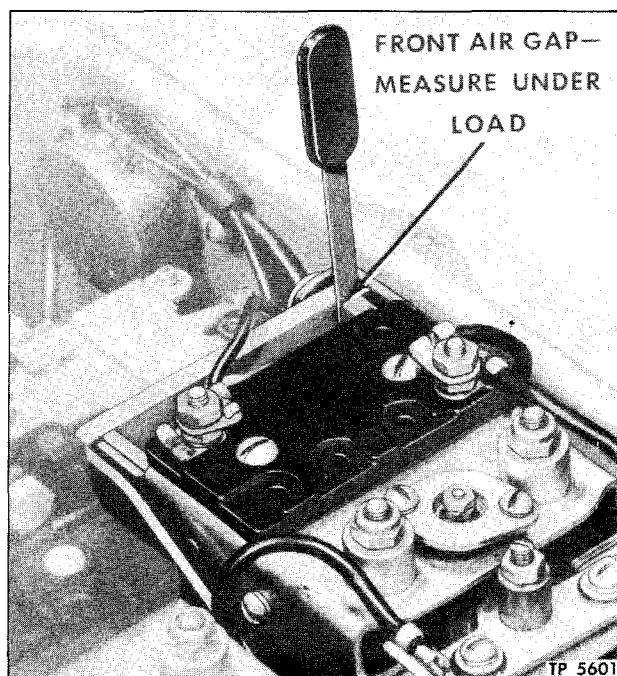
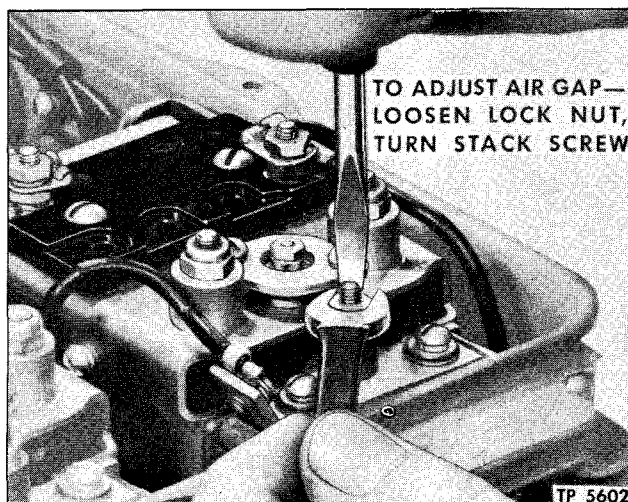

Figure 25—Voltage Regulator Front Air Gap Check
Figure 26—Adjusting Voltage Regulator Front Air Gap
9. Check front air gap of voltage regulator (fig. 25) using non-magnetic feeler gauge.
10. Adjust air gap, if necessary, by loosening lock nut and turn stack adjusting screw (fig. 26). Set lock nut when adjustment is correct.
7. Check front air gap with non-magnetic feeler gauge (fig. 25). Adjust front air gap, if necessary, by loosening lock nut and turning stack adjusting screw (fig. 26). Tighten lock nut.